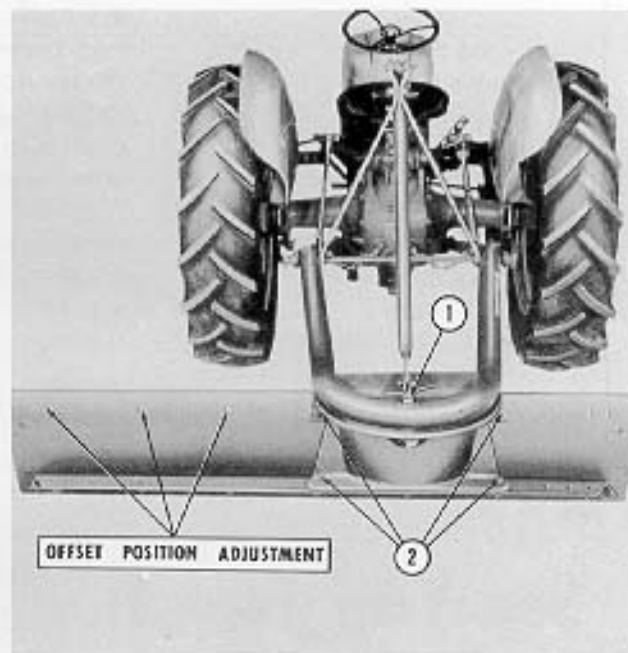

Figure 3
Angle of the Blade: The blade angle may be changed by removing the turntable wing bolt (1) Figure 3, and turning the blade to any one of the six desired positions.
Offsetting the Blade: The Dearborn Economy Blade is so designed that the blade may be offset in four positions. There are two positions left and two positions right of center. To offset the blade, remove the four bolts (2), Figure 3, and slide the blade to the desired position. Replace the respective bolts, nuts and lockwashers as shown.